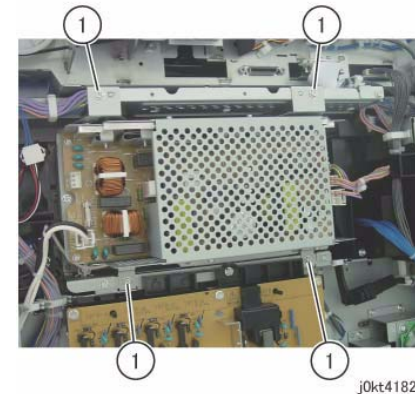

Figure 2 Remove the screws
3. Remove the screws (x4) that secure the Sub LVPS. (Figure 2)